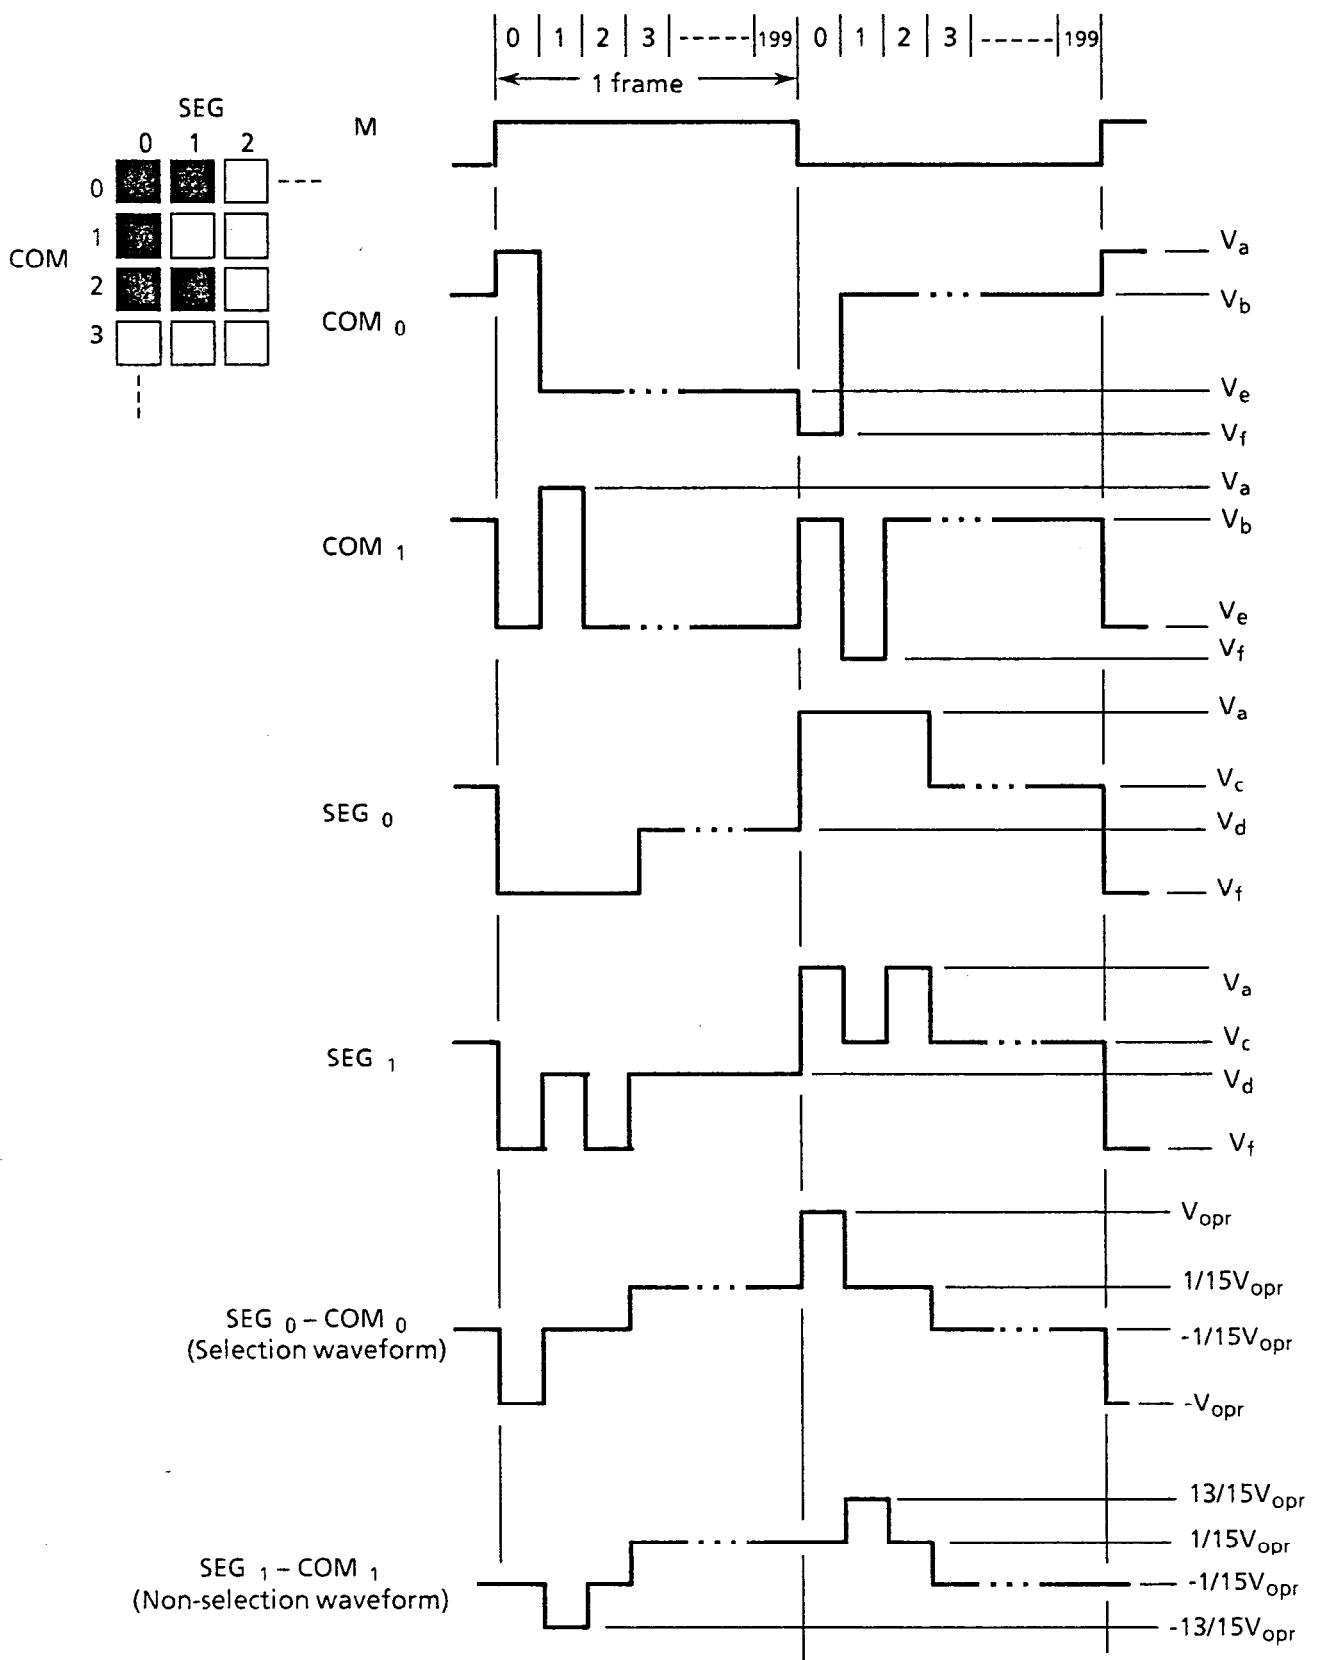

Figure 2 Drive waveform
The drive waveform of the LCD panel is shown in Figure 2 on the next page. Since DC voltage will damage the liquid crystal, an AC voltage is applied between the two frames. The signal controlling this is the liquid crystal AC drive control signal (M).
The G648D has a 1/200 duty cycle, and the common electrodes are selected within a frame by time division from electrode 1 to electrode 200. This is called line sequential scanning. The voltage level of the segment electrodes determines whether the dots at the intersection of the segment electrodes are selected or not, when the common electrode is selected. As shown in Table 1, there are six drive waveform voltage levels, V_a to V_f . The voltage level is determined by the bias value. The voltage between the segment and common electrodes is thus applied to the liquid crystal. The selection waveform for SEG_0-COM_0 and the non-selection waveform for SEG_1-COM_1 are shown in Figure 2. The size of the effective voltage of the waveform determines whether the liquid crystal under the selected dots is in the selection or non-selection state.